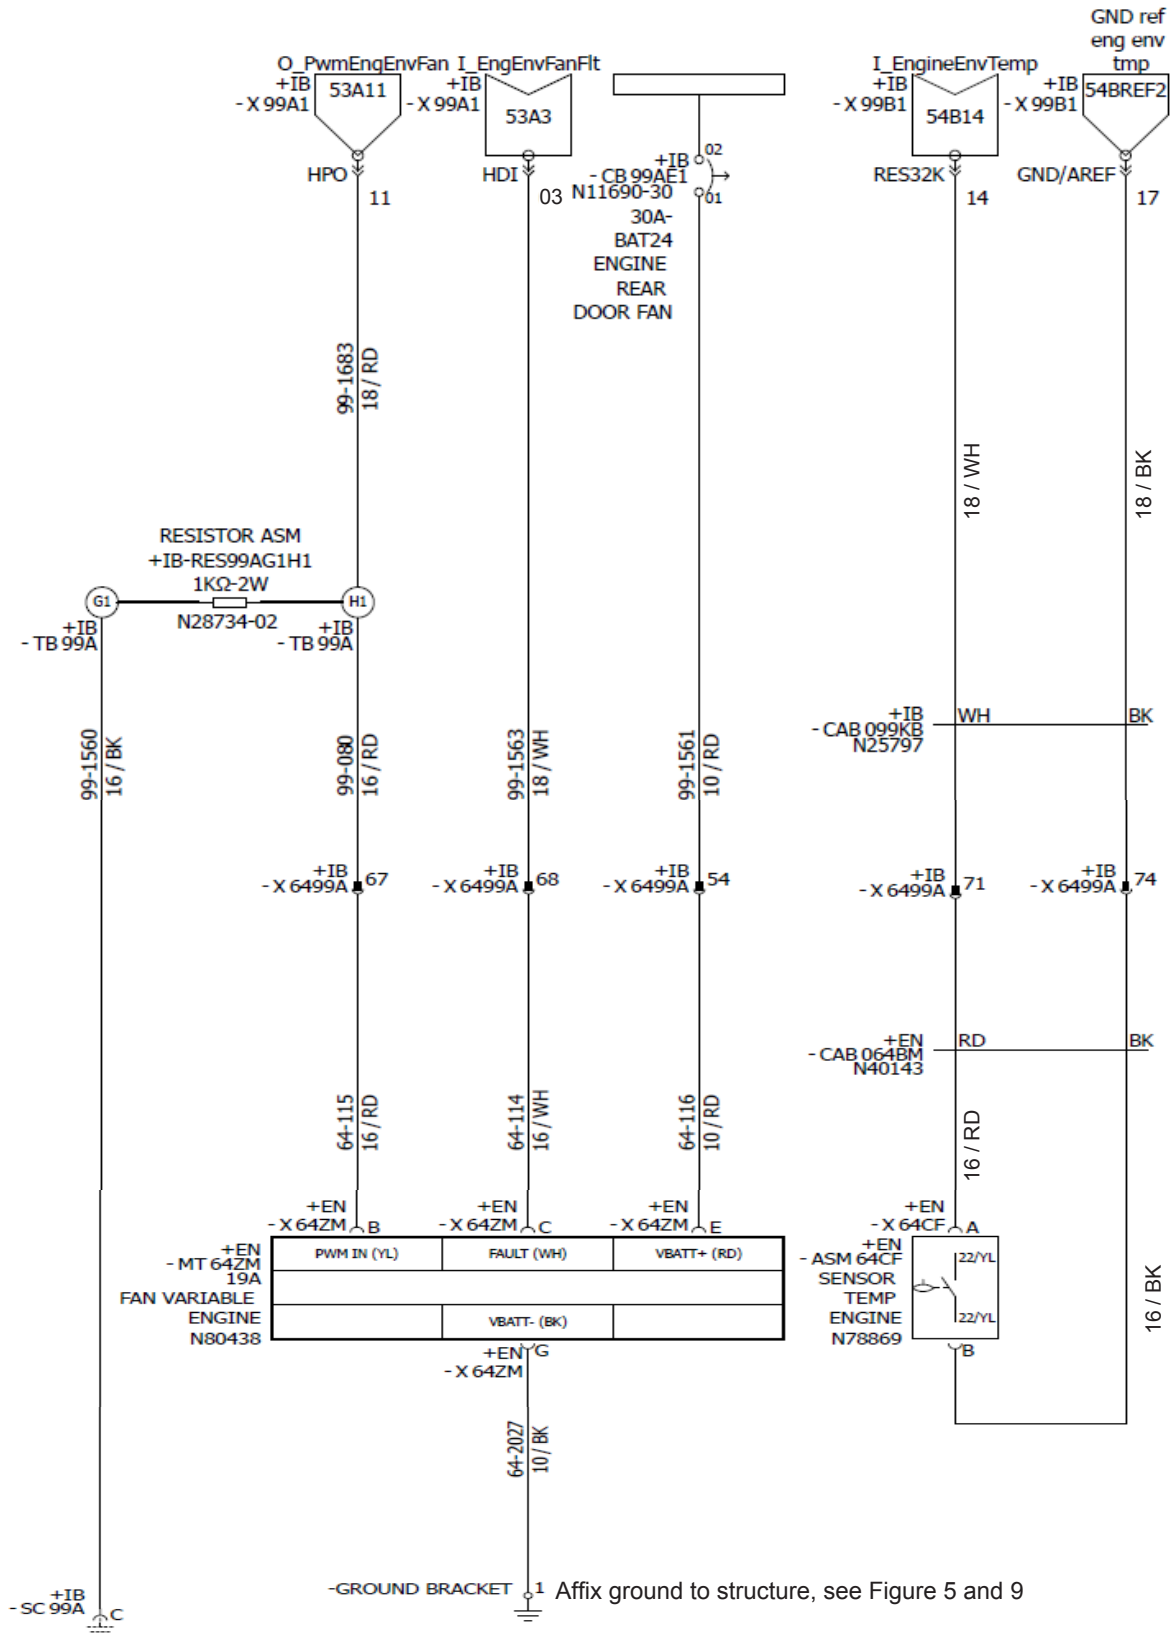

Figure 20 - Electrical diagram
- 1.38. Connect the temperature sensor to the harness as indicated in the electrical diagram (see Figure 20).